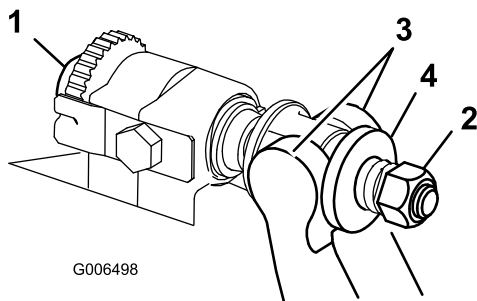

Figure 1
2. Turn the bedbar adjusting screws, counterclockwise, to back the bedknife away from the reel (Figure 1).
3. Back out the spring tension nut, until the washer is no longer tensioned against the bedbar (Figure 1).